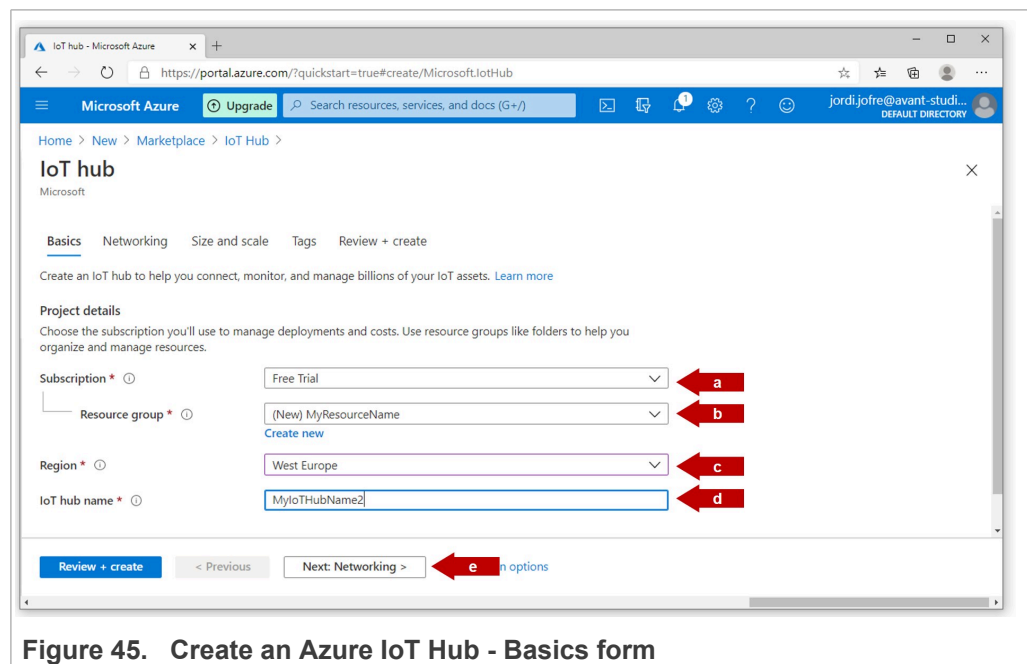

Figure 45. Create an Azure IoT Hub - Basics form
2. In the **Basics** tab, fill in the fields as shown in Figure 45: